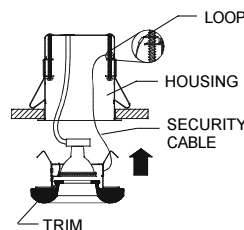

FIG.8
- Take the loop found at the end of the security cable attached to the trim and secure by passing the loop over either one of the screws found within the housing. (Fig. 8)
- Push the trim into the housing. (Fig.8)